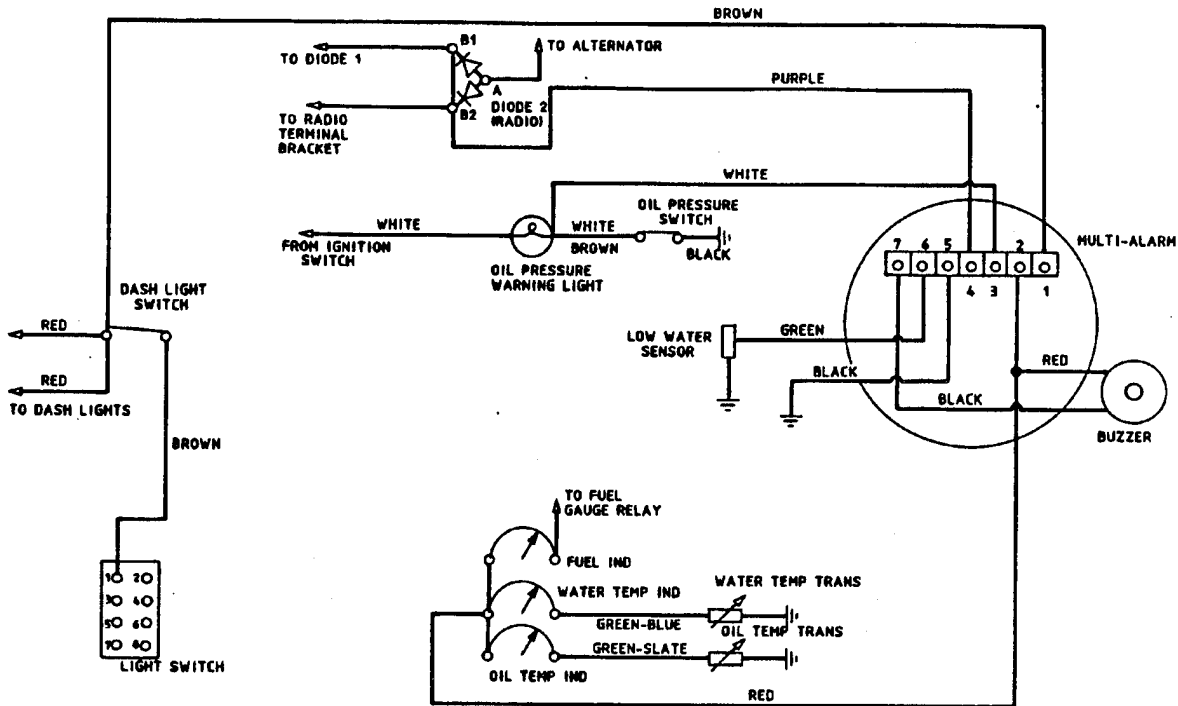

Figure 5 — Wiring Diagram
- i. With the harness manufactured at para 11 g. wire the components as per wiring diagram Fig 5, using the following procedure: